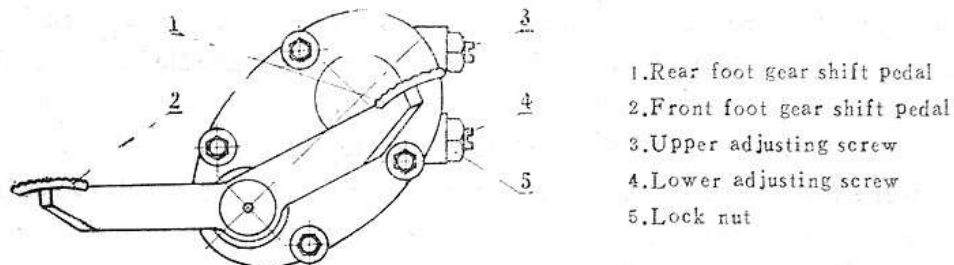

Fig. 12 Schematic Diagram of Foot Gear Shift Mechanism
- 4.6.1 If trip-under stop happens in shifting from lower to higher gear position , screw out the lower adjusting screw (item 2 In Fig.12) .
- 4.6.3 If trip-under stop happens in shifting from higher to lower gear position, screw out the upper adjusting screw (Item 1 in Fig.12)